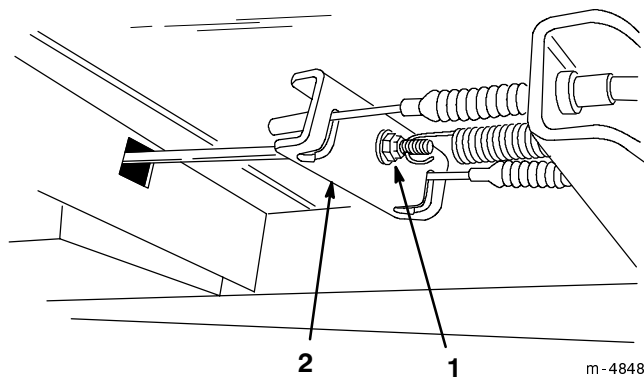

Figure 31
3. Tighten the cable adjusting screw, located beneath the floor panel, until the cables are snug in the brake equalizer (Fig. 31). Do not overtighten. There should be some free play in the brake pedal before the brake engages.